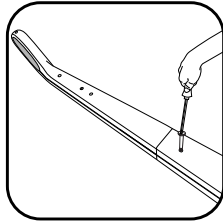

fig. 2
- Insert the blocking screw (7) into the handle and tighten it with a screwdriver (fig.2).